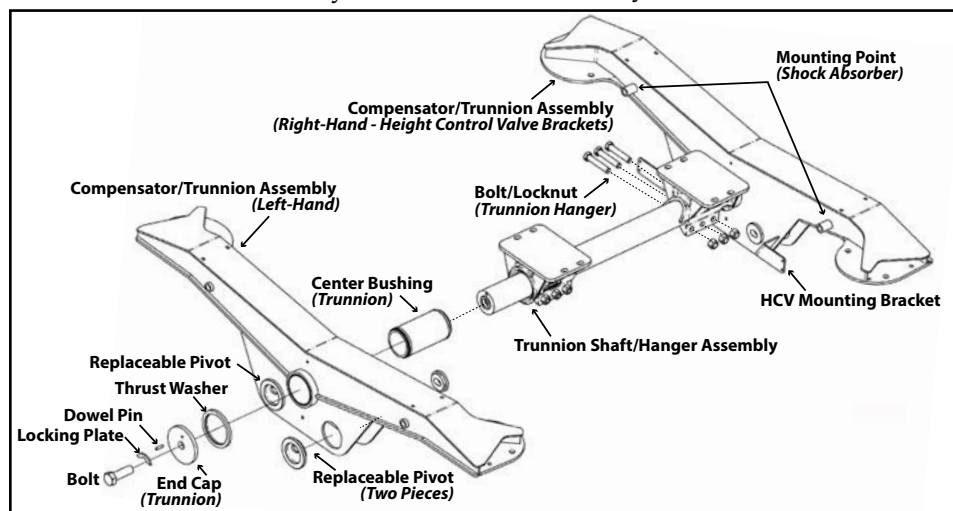

Figure 8.
4. Grind off the weld on locking plate over the trunnion shaft bolt. Remove locking plate, dowel pin, trunnion shaft bolt, end cap; thrust washer (Fig 8).